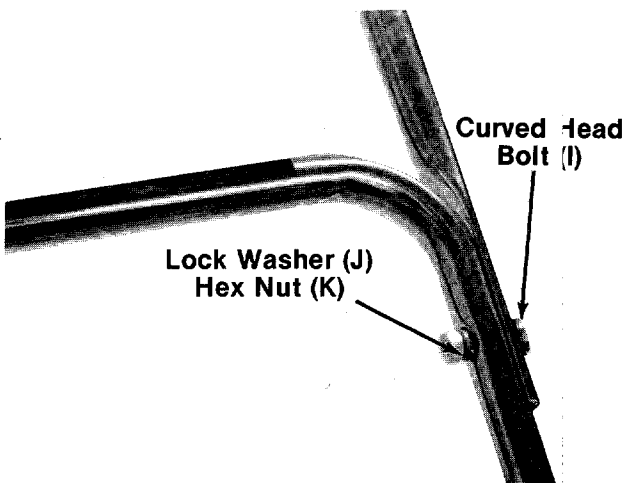

FIGURE 3.
4. Place the upper handle in position over the lower handle. The control housing must be on the right hand side of the handle. Secure the left hand side of upper handle using the curved head bolt (I), lock washer (J) and hex nut (K) as shown in figure 3.